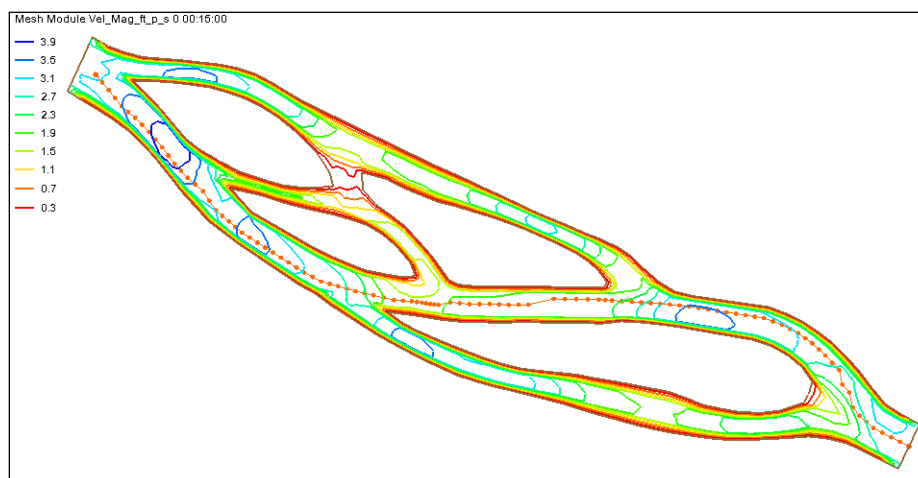

Figure 16 Observation arc, created from top left to bottom right
5. Using the **Create Feature Arc**  tool, create an arc down the main channel, double-clicking to end the arc (Figure 16).